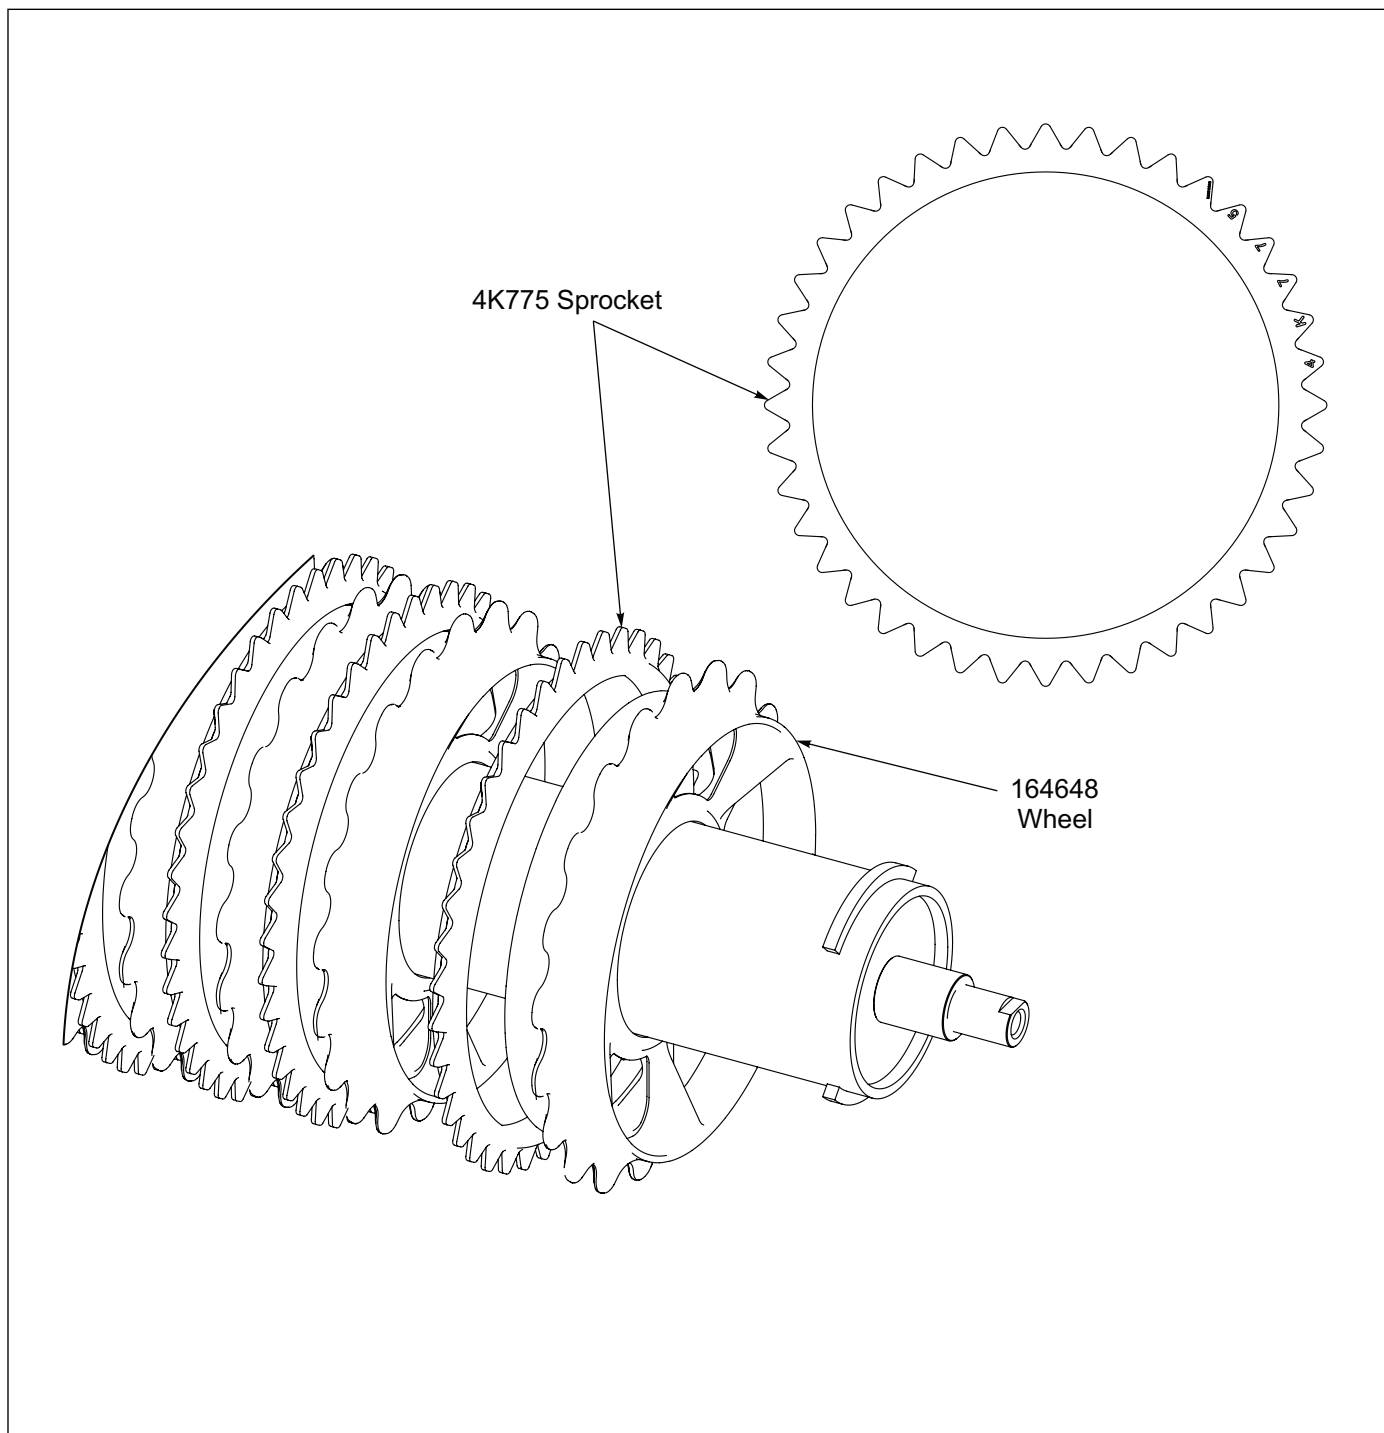

Figure 2-30: Sprocket 4K775
1. Position the sprocket between each wheel so it rides on top of wheels. **See Figure 2-30.**